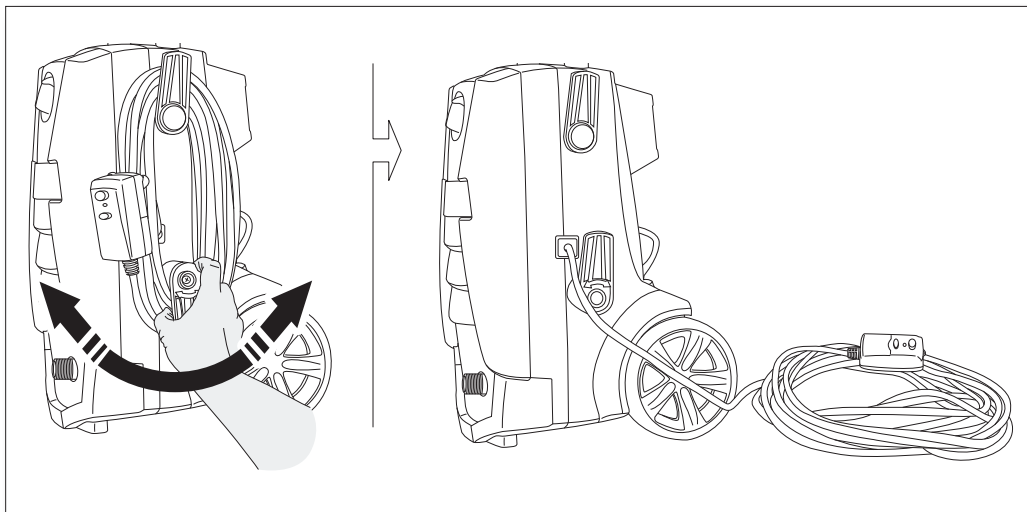

Fig. 3
- Easily remove the power cord from side of unit by swiveling the bottom cord hook to the right or left until it faces up. The power cord then can be easily slid off of the side of the power washer unit. **(Fig. 3)**